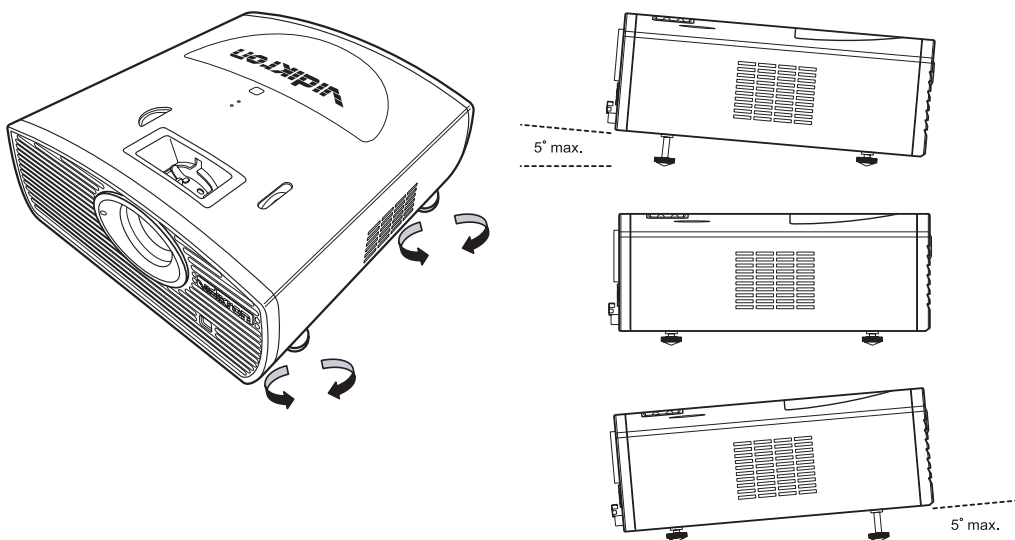

Figure 4-1. Adjusting the Feet
When the Vision 10/12 is installed upright, you can adjust the projector height or projection angle by turning the four adjustable feet on the bottom of the projector; see Figure 4-1. This is useful for correcting the angle of projection when the projector is placed on an uneven surface or when the screen is at an angle. You can tilt the projector up to five (5) degrees up or down by adjusting the feet.